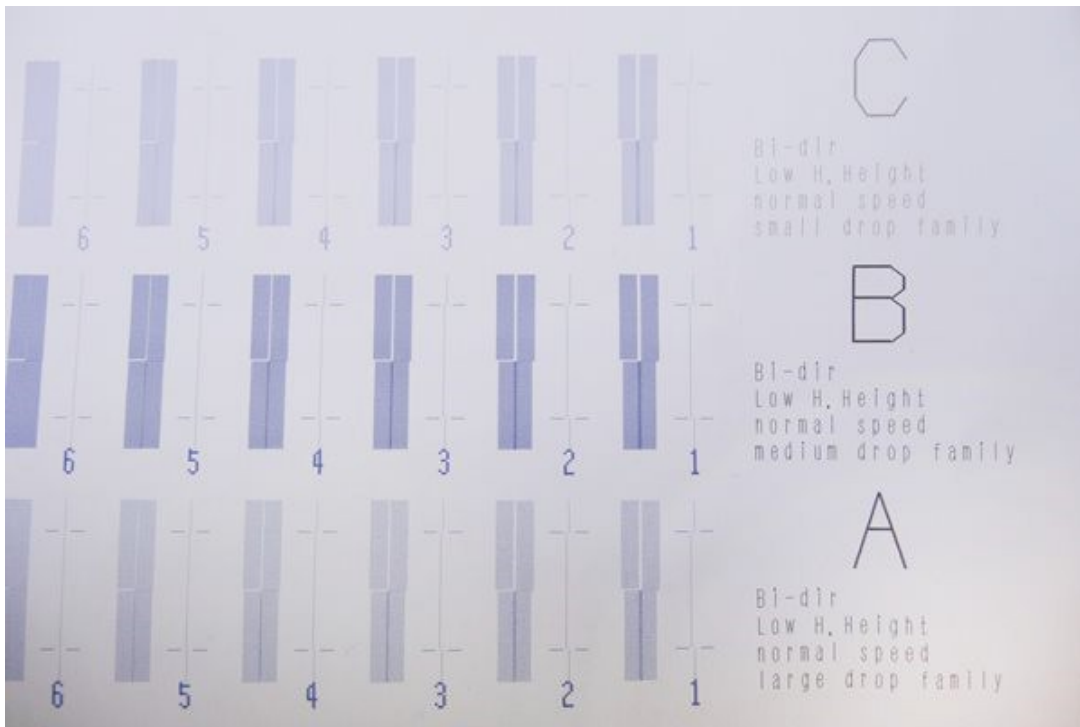

Figure 83
70. A set of patterns will begin printing. See Figure 83.